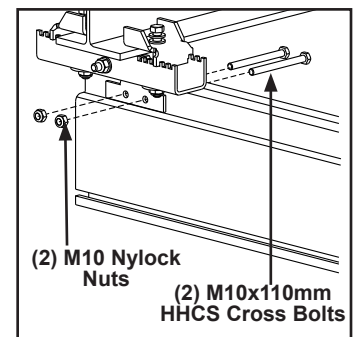

Figure 3-38
- Step 3. Install two (2) M10 x 110 mm HHCS with M10 nylock nuts. **Tighten until bolts are snug + 1/4 turn.** Do not over tighten. Over tightening could cause bracket to bend. See Figure 3-38.